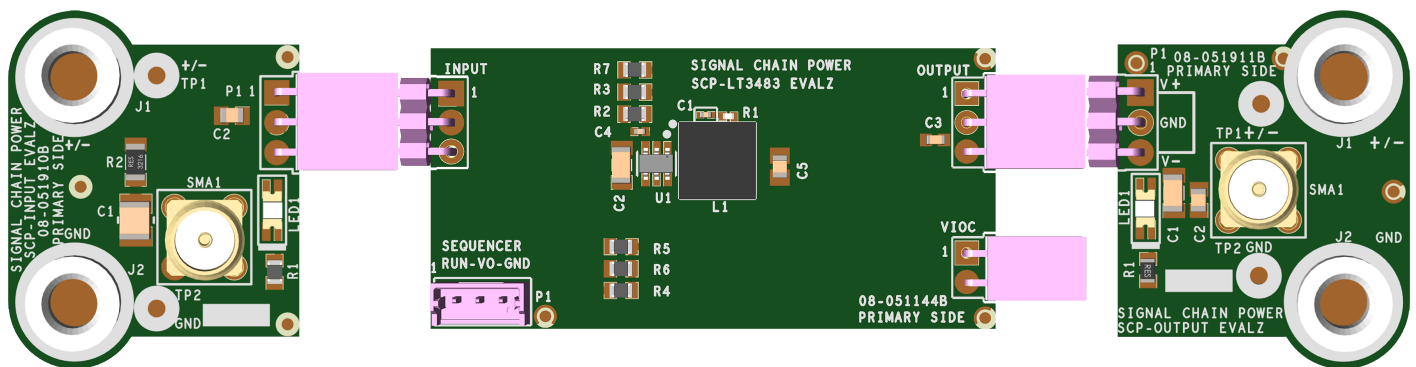

Figure 2. Proper Measurement Equipment Setup (Use SMA connectors for Measuring Input or Output Ripple)
Demonstration circuit SCP-LT3483-EVALZ is easy to set up to evaluate the performance of any SCP hardware configuration. Refer to Figure 2 and follow these steps:
2. Connect the SCP-INPUT-EVALZ and SCP-OUTPUT-EVALZ boards to the SCP-LT3483-EVALZ board (refer to Figure 2) and connect the input board to a voltage source, V_{SOURCE} . Connect the output board to a voltmeter or dynamic load. Slowly raise the input voltage until the SCP-LT3483-EVALZ into regulation and sweep V_{SOURCE} through the desired range of operation.